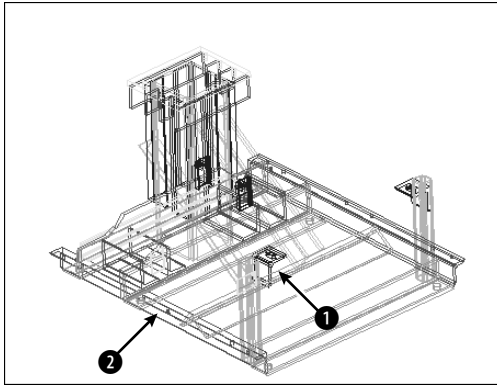

Figure 28-17: The DWF file as seen in Autodesk DWF Viewer.
- Autodesk DWF Viewer opens automatically and displays the DWF file that was created in the previous exercise. From the List tab in the left pane of the Autodesk DWF Viewer, choose the second sheet, labeled (2)ab28-01-Iso (11x8.5 in), as shown in Figure 28-17.
- Press Ctrl and click **1** in Figure 28-17. The text shown in Figure 28-18 opens in a new Internet Explorer window. (You may have to minimize Autodesk DWF Viewer to see the text.) This comes from an Excel spreadsheet saved in text format.
- Press Ctrl and click **2** in Figure 28-17. You see the horizontal angle in a new Internet Explorer window.